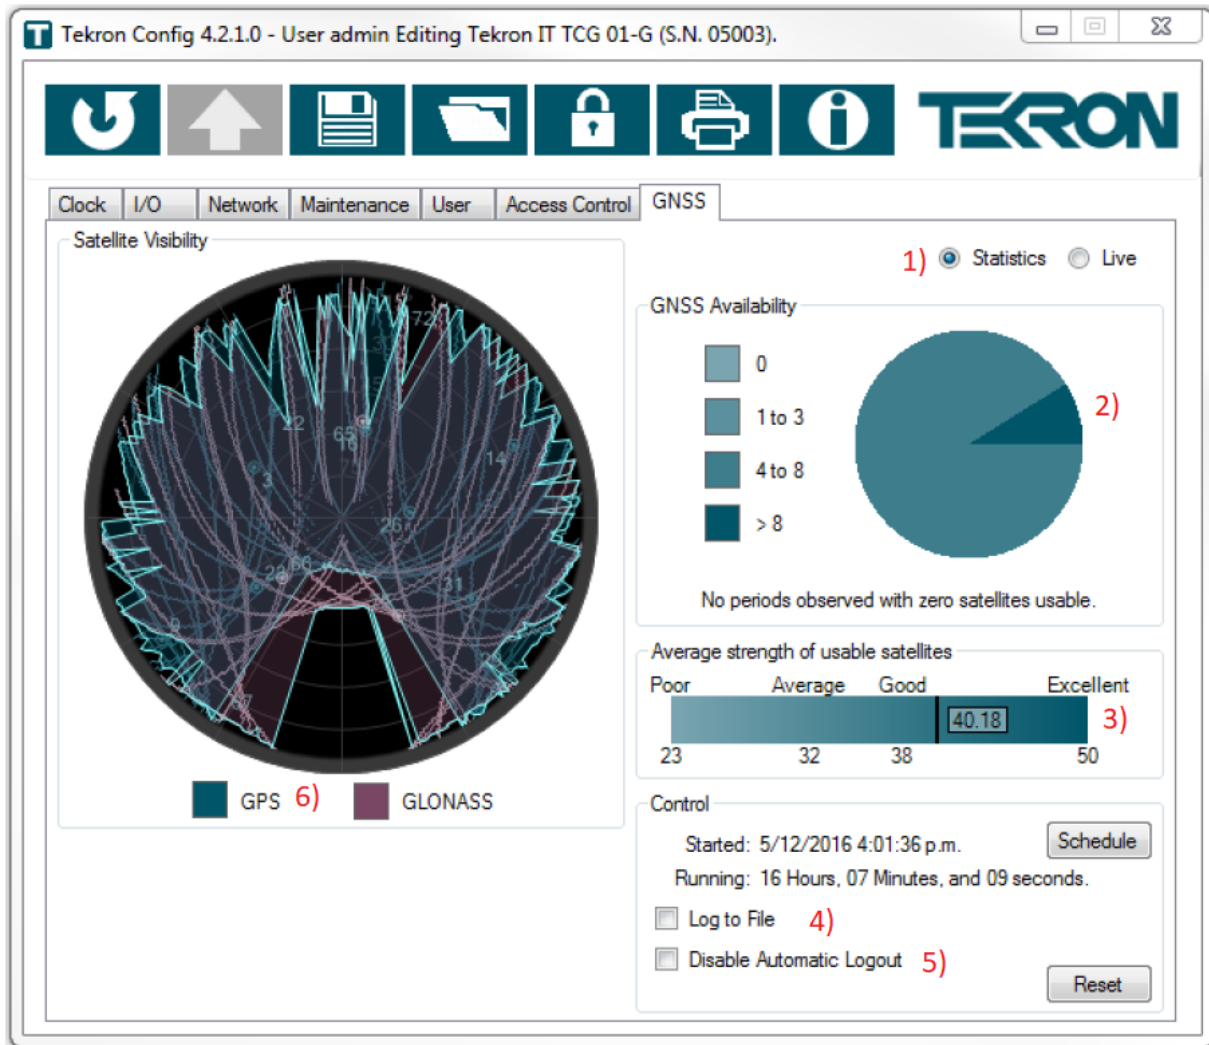

Figure 37 – Satellite statistics tab showing satellite availability
To take a 24-hour satellite recording, navigate to the GNSS (GPS) tab on the configuration tool (Figure 37) and click the Statistics Button (point 1 in red). Click the "Disable Automatic Logout" (5) box and leave the configuration tool running on the PC connected to the clock for a 24-hour period.
Gaps in the satellite plot show area's where the clock cannot see satellites. This could be because of an obstruction, or in the case of the plot in Figure 37, an area where satellites do not orbit such as the North or South Poles (plot taken in New Zealand). Reviewing the satellite plot gives indications of potential issues with the antenna installation, should there be large gaps in the satellite map.